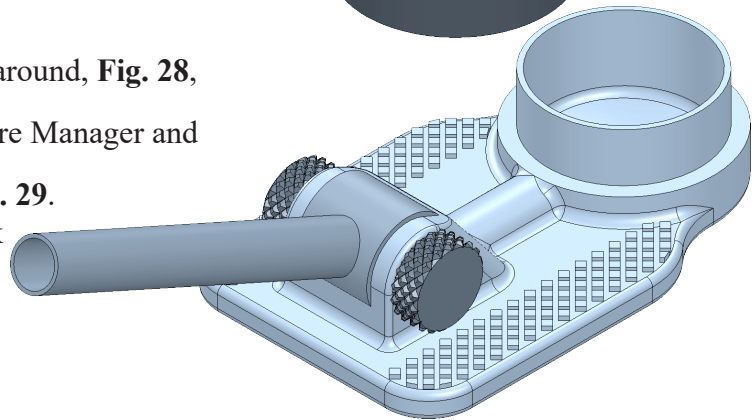

Fig. 27
Step 4. Click to place **Plunger**, **Fig. 27**.